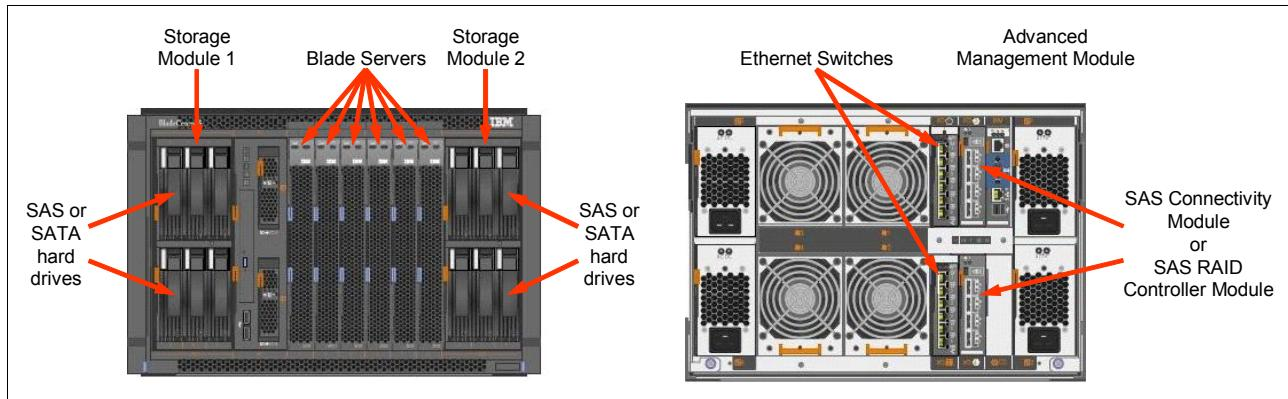

Figure 3-9 IBM BladeCenter S
**Note:** As shown in Figure 3-9, the BladeCenter S chassis can also move certain workloads out of the data center altogether. Designed for office and branch environments, the all-in-one BladeCenter S can hold up to six blade servers, offers redundant storage area network (SAN), I/O, and disk capabilities, and can be equipped with an optional Office Enablement Kit which includes an acoustical module, front locking door, air filters, and more.